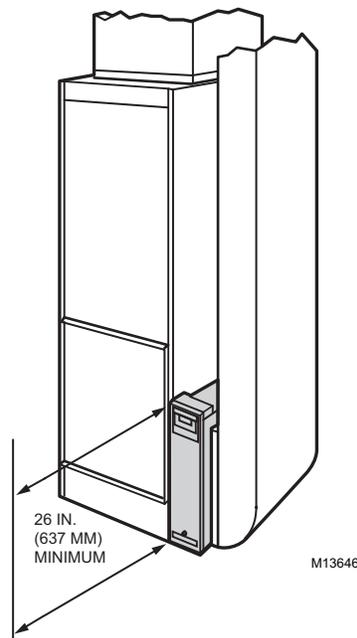

Fig. 16. Check for clearance to change filter.
1. Review the installation location and verify that there is adequate clearance for removal and replacement of the filter cartridge. See Fig. 16.